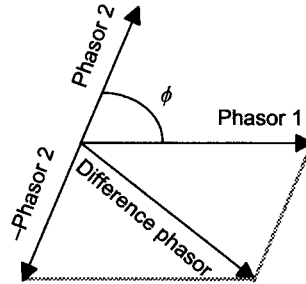

Figure 17.29 Subtracting phasors
- 2 Draw the parallelogram with the reversed direction phasor ($-\text{phasor 2}$) and the other phasor (phasor 1) as the two adjacent sides of a parallelogram (Figure 17.29).